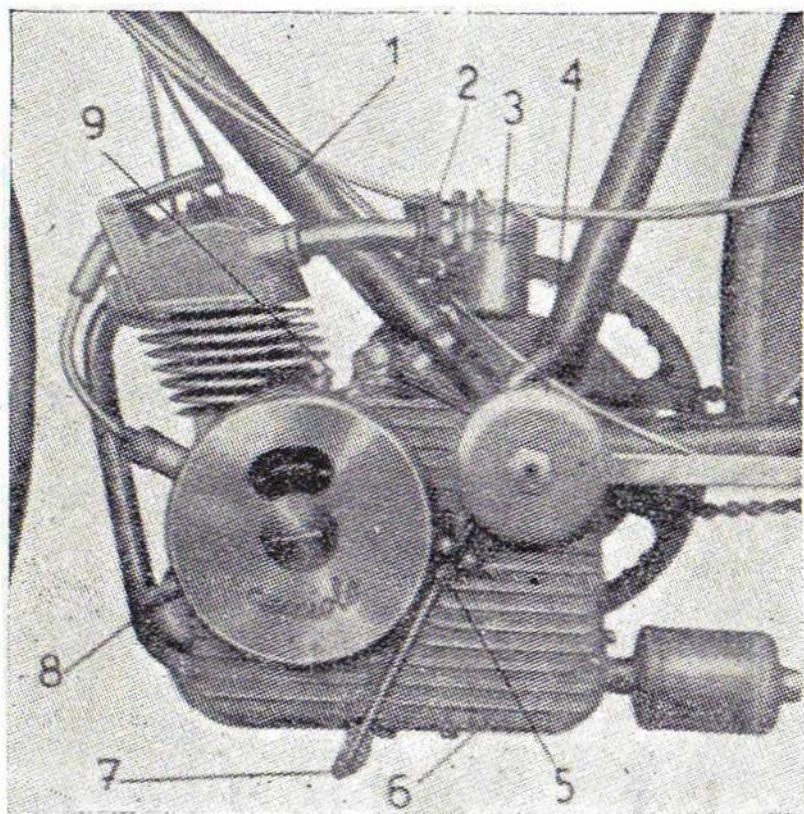
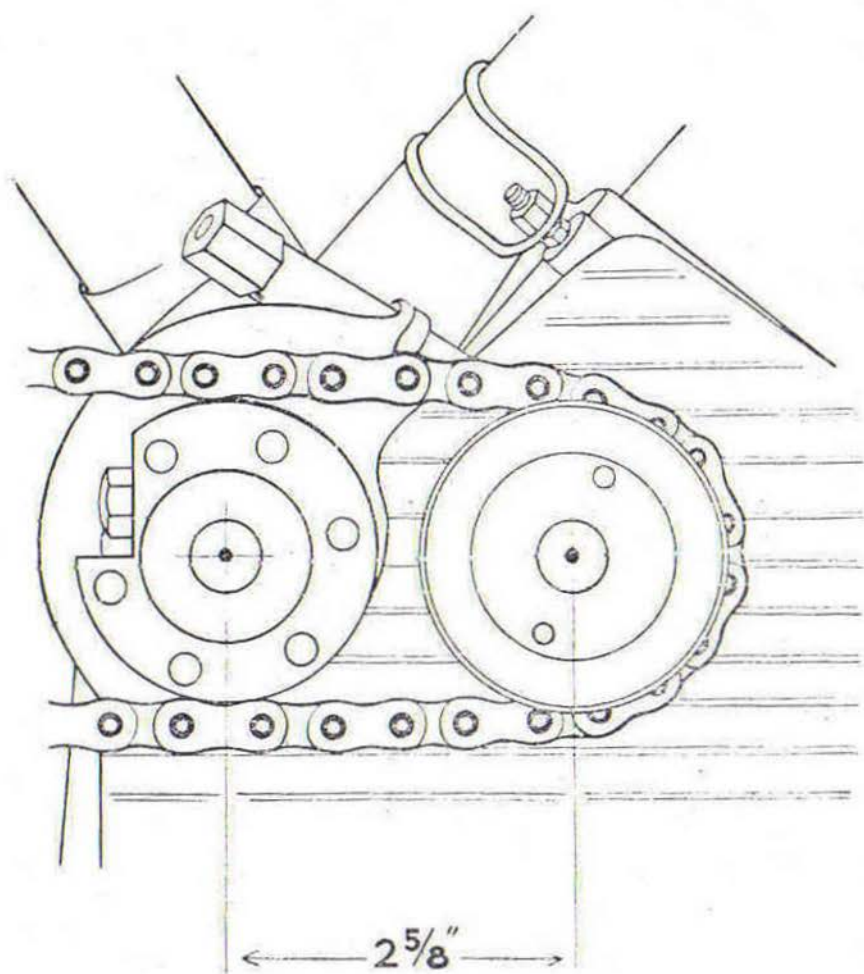

Fig. 3
Fig. 7
The motor unit should be fitted in order that the semi-circular recess (14) fits snugly on the lower part of the bottom bracket (4) and that the cradle (13) holds firmly to the bicycle main bar (also called front down bar). The recess (14) shall fit around the bottom bracket with packing placed between the crank-case and the bottom bracket, and at the cradle (13) — and two clamps (16) will fit around the top part of the bottom bracket and will be kept into position by the pin attaching the motor (15). Above, against the cradle (13) is fitted the clamp (17) which will close around the tube 1 (Figure 3). Attention must be given while tightening the clamps (the necessary spanner is supplied with the motor) that the valve operating rods of the motor shall not touch or be too near to the bicycle tube 1. (A clearance of $3/32$ " is sufficient.) If the clearance is not sufficient, an extra layer or two of red fibre or metal packing can be inserted at recess (13). Attention must also be paid to the distance between centre of the slip sprocket (see Fig. 7) (22) and the centre of the bottom bracket spindle, which is $2\ 5/8$ ". If distance is not correct either the inner teeth of the crank-wheel will engage too deeply into the slip sprocket
In order to synchronise the gear change it is necessary to free completely the screw which will register the clutch (5) (Figure 3). Assemble the lever of the change (24) on the clutch lever and fit the washer and split pin. Hold the change into neutral, with the left pedal down. Thread the Bowden wire into the eyelet of the clutch lever (7) and pull until the two contacting parts are about $3/32$ " from the preselector bell shaped cam. The Bowden wire should then be locked with the screw (7) (Fig. 3). The screw (5) is then registered to contact the clutch and locked by its locking nut. With the left pedal forward the low gear will automatically be engaged by actuating the clutch lever (the gear shifting pin (23) should be right in). With the left pedal down the gear change will cut back into neutral position. With the left pedal backwards (or correspondingly the right pedal forward), the top gear will become engaged. (The gear changing pin (23) will then be right out.) When either of the two gears are engaged the pedal must revolve backwards (or anti-clockwise) freely with the bell shaped cam selector (25) touching the gear changing lever (24). Should it be found necessary to register the automatic gear to have greater distance between the bell shaped gear selecting cam and the gear lever, it will be sufficient to insert between the gear selecting cam of the pedal axle a suitable washer in order that the internal part of the bell shaped gear selecting cam (25) shall always be well "shouldered" to the pedal crank.
- (d) **Electric current** (a.c.) at 6 volts is generated by the lighting coil of the flywheel magneto when the engine is running. The bicycle headlight wire should be secured to the lug screwed on the insulated terminal (9) (Figure 3). Check that engine is in good electrical contact with the bicycle frame, also the headlight bracket. About twelve watts are available from the flywheel generator, sufficient for bright headlight and tail light illumination. As electric current will be always available when the engine is running, provision for a switch must be made in the headlamp electrical circuit.
As the position of the oil filling plug has been specially designed for correct oil level, subsequent topping up of the oil level is extremely simple. Never let the level fall below $3/8$ " of the normal; check this every 150-200 miles (as long as the motor does not lose oil). In any case after the first 150-200 miles and then every 500/700 miles, the oil should be completely drained and new oil put in. Drainage is effected by **unscrewing** the plug (b) (Figure 3) under the crank case with the tube spanner, supplied with the tool kit. To obtain a full drainage, this operation should preferably be done whilst engine is warm.
OPERATION OF THE GEARS. From what has been said before, the automatic operation of the pre-selector is already evident; the single clutch-control (7) (Figure 3) with the same movement which will disengage the motor from the power-transmission, will actuate simultaneously and automatically also the change of the gears, without the necessity of a separate gear lever.